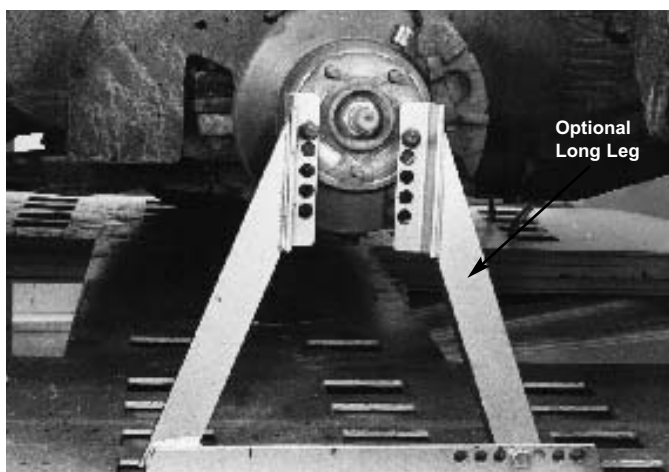

Figure 2
**NOTE:** An optional long leg is available for this type of Wheel Stand. (See Figure 2.) It provides additional height for supporting the wheels of some pickup trucks and four wheel drive vehicles.